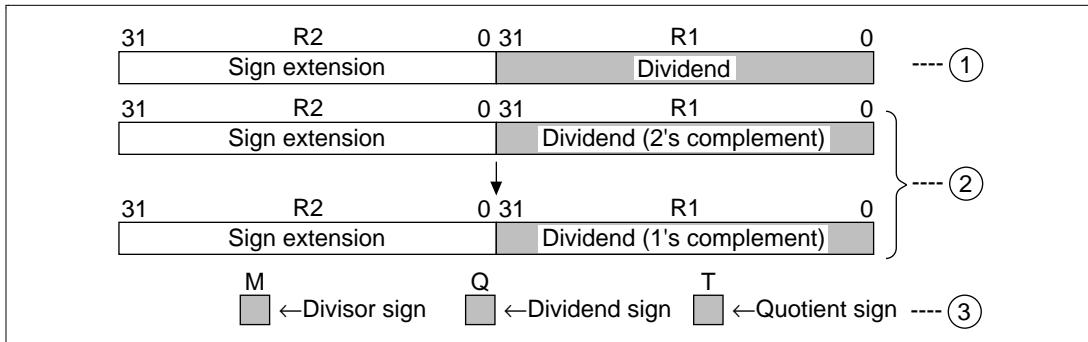

Figure 3.54 Initial Setting (DIVS32Q)
1. Takes R2's upper 32 bits and zero-extends the dividend to 64 bits (figure 3.54 (1)).
2. If the dividend is negative, converts it to 1's complement for handling by the one-step division instruction (figure 3.54 (2)).
3. Sets the M, Q and T bits used in one-step division to signed division values (M = divisor sign, Q = dividend sign, T = quotient sign) (figure 3.54 (3)).